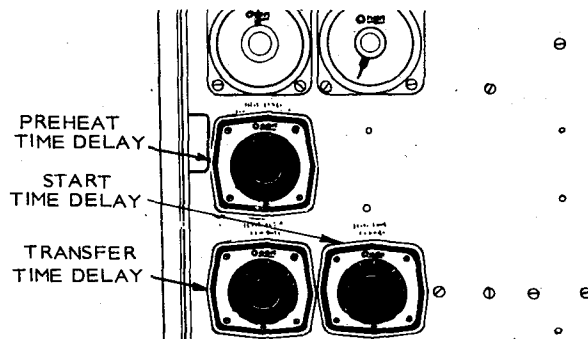

FIGURE 14. START AND TRANSFER TIME DELAY RELAYS
2. Turn the knob on the time delay clockwise to increase delay time, counterclockwise to decrease the delay time. See Figure 14.